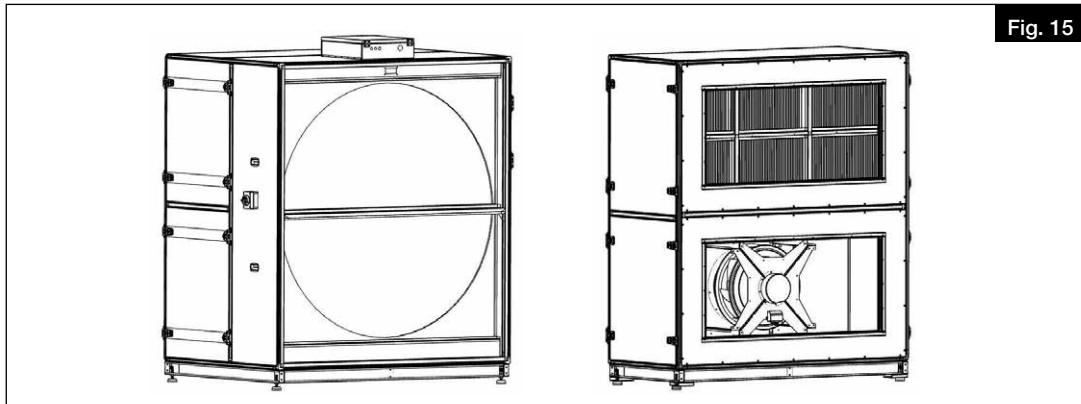

Fig. 15
1. The gasket must be fitted between the adjoining modules before assembly of the module (see Fig. 15).